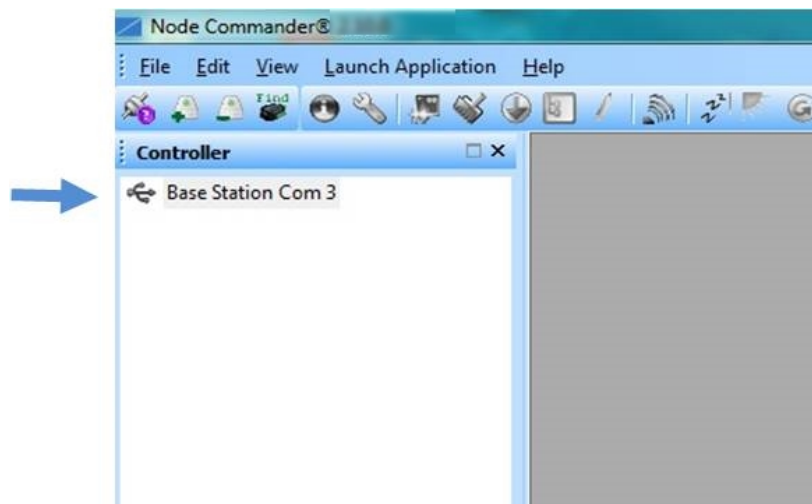

Figure 5 - USB Gateway Communication
3. The gateway should appear in the Controller window automatically with a communication port assignment (Figure 5 - USB Gateway Communication). If it is not automatically discovered, verify the port is active on the host computer, and then remove and re-insert the USB connector.